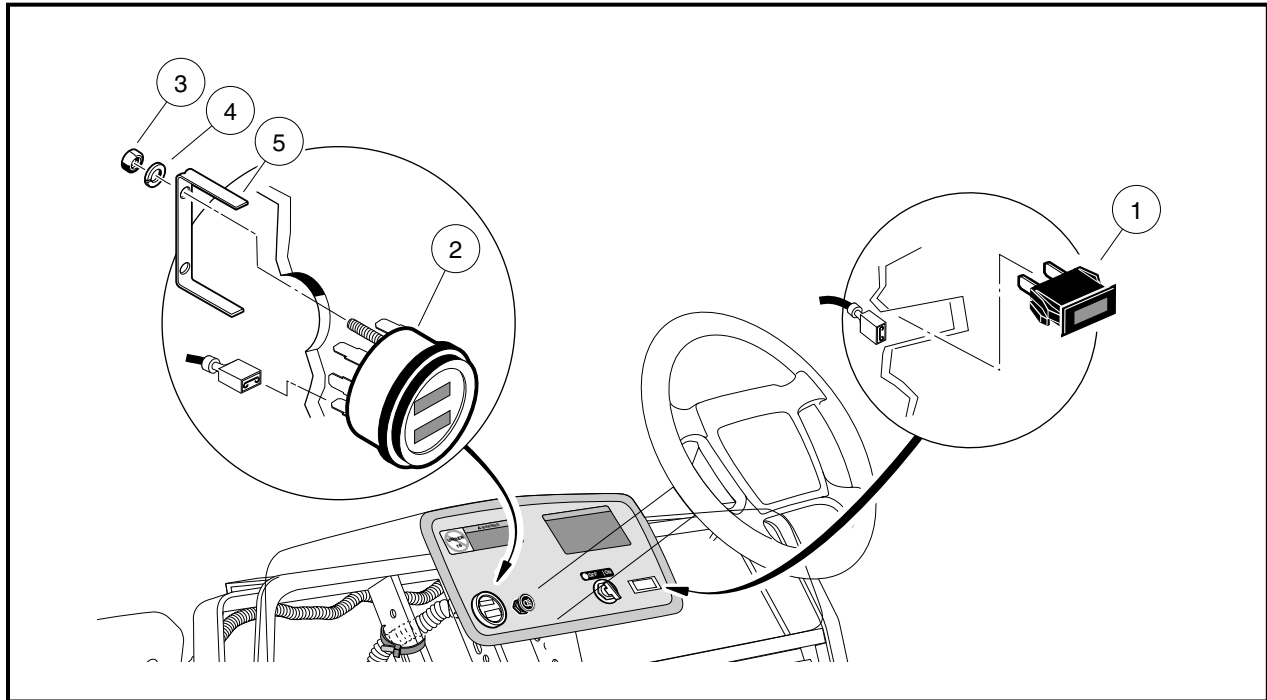

Figure 12a-25 Fuel Gauge/Hour Meter and Oil Warning Light Installation
5. Disconnect the wires from the oil warning light (1) (**Figure 12a-25, Page 12a-25**). Do not allow wires to touch.
1. Push a new unit into hole in dash until plastic tabs engage dash (**Figure 12a-25, Page 12a-25**).